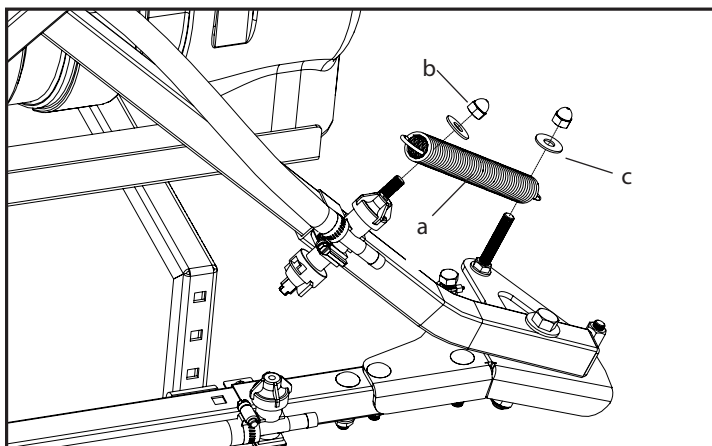

Figure 5: Extension spring mounting
4. Attach the extension spring (a) to the brace on the center boom section and to the bolt on the boom wing using 3/8" flat washers (c) and 3/8" acorn nuts (b) (Figure 5).